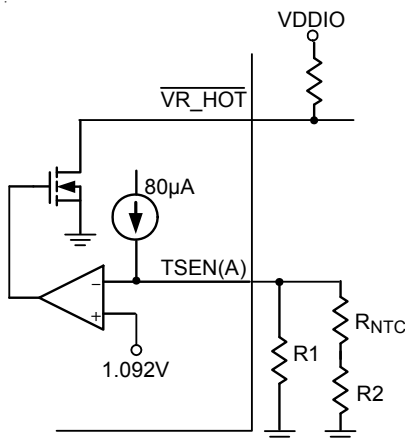

Figure 8. VR_HOT Circuit
The VR_HOT signal is an open-drain signal which is used for VR thermal protection. When the sensed voltage at TSEN(A) pin is less than 1.092V, the VR_HOT signal will be pulled-low to notify CPU that the thermal protection needs to work. According to Intel VR definition, VR_HOT signal needs acting if VR power chain temperature exceeds 100°C. Place an NTC thermistor at the hottest area in the VR power chain and its connection is shown in Figure 8, to design the voltage divider elements (R1, R2 and NTC) so that VTSEN(A) = 1.092V at 100°C. The resistance error of TSEN network is recommended to be 1% or smaller.